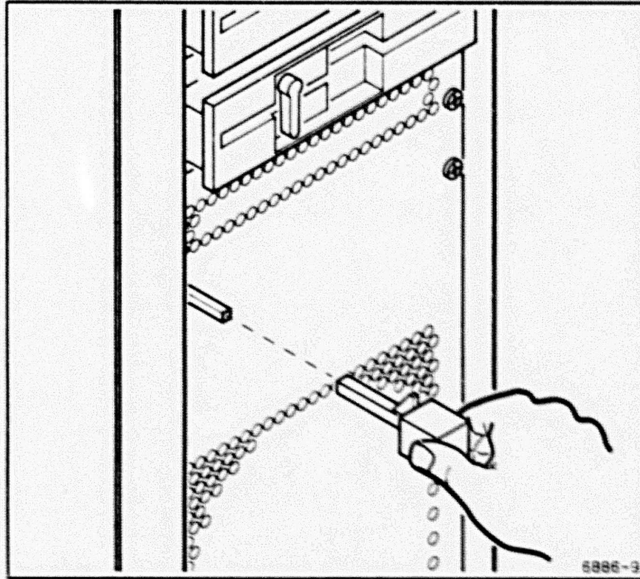

Figure 2. Removing the Power Switch Knob and Shaft.
1. Pull off the power switch knob and set it aside; see **Figure 2**.